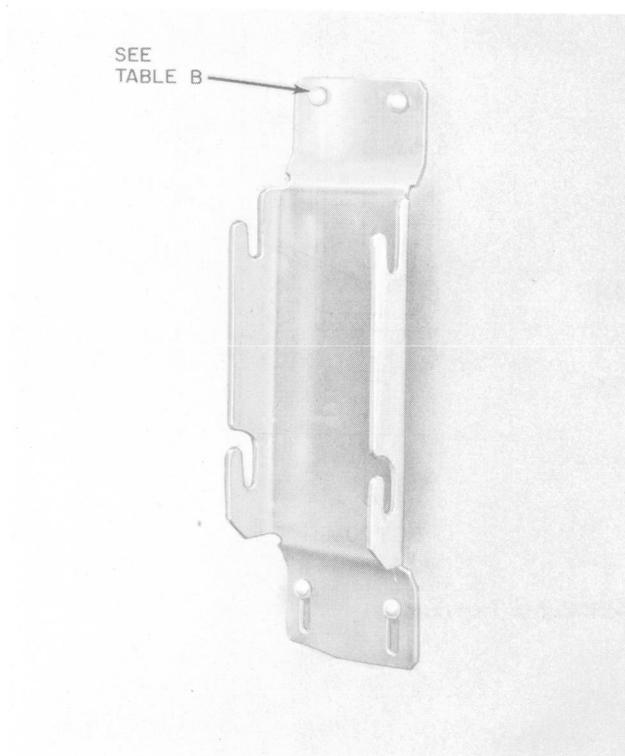

Fig. 4—Mounting Bracket Attached to Wall
4.02 Use Table B as a guide for selecting anchoring devices and attach the mounting bracket to a wall as shown in Fig. 4.